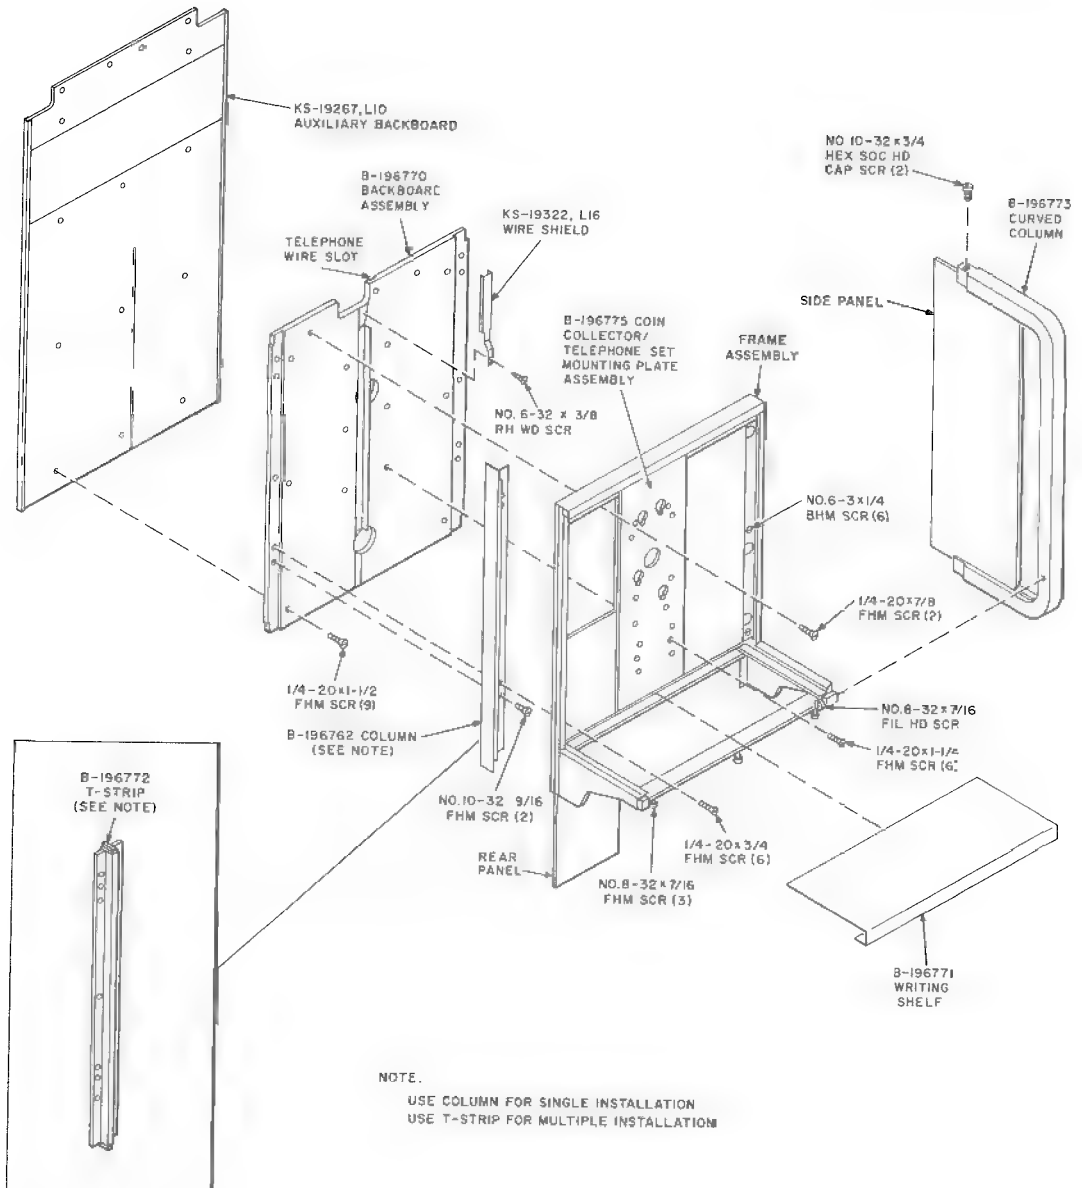

Fig. 7—Assembly of KS-19267 Shell
3.03 Secure B-196770 backboard assembly to List 10 auxiliary backboard, if applicable, using nine 1/4-20 by 1-1/2 FHM screws (Fig. 7).
3.04 Install KS-19322 sign if applicable and cover exposed electric power cord between sign and shelf with KS-19322, List 16 wire shield (Fig. 7).
Where multiple units are installed, a B-196772 T-strip will be used to join two shelves together. This T-strip will replace the side column. T-strips are furnished as part of KS-19267, List 2 and List 4 shelf assemblies (Fig. 7).
(b) Remove the following per Fig. 7:
4.06 Refer to Fig. 7, 8, and 9 and Tables A and B for replacement parts.